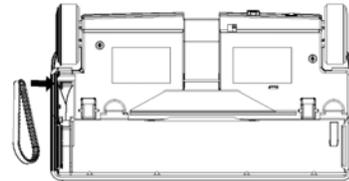

Figure 9
5. Slip the new cogged belt over the gear on the motor shaft (as shown in Figure 9).
8. Replace the Brush cover as described in item 6 under Brush Roller Cleaning.